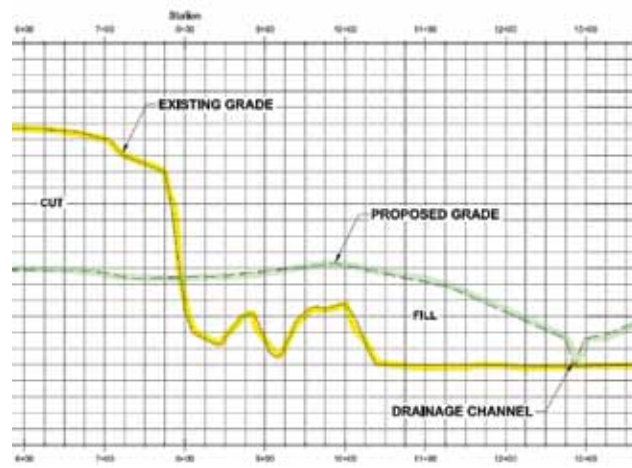

Figure 2: Example profile
Let's begin by using a typical alignment created on a site drawing, moving from west to east showing the line for the profile. Within our site drawing we have two surfaces: one for existing grades (EG) and the other for proposed grades (PG)—two surfaces created during the design of a civil project. We will use these two surfaces to create our profile lines as shown below in Figure 2. Notice how I have labeled the cut and fill areas as well as the drainage. I have highlighted the existing and proposed ground lines to show the boundaries we will be using in this example.